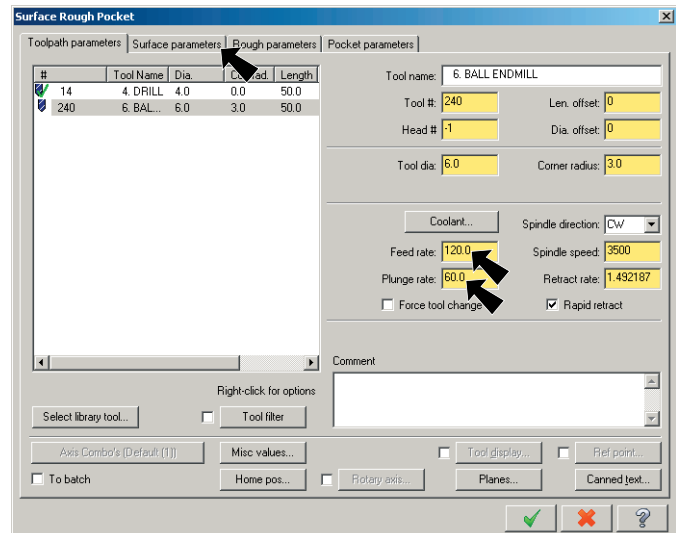

Fig. 30
Step 6. Set **Feed rate: 120** **Fig. 30**.
Step 8. Click the **Surface parameters** tab at the top of the dialog box, **Fig. 30**.